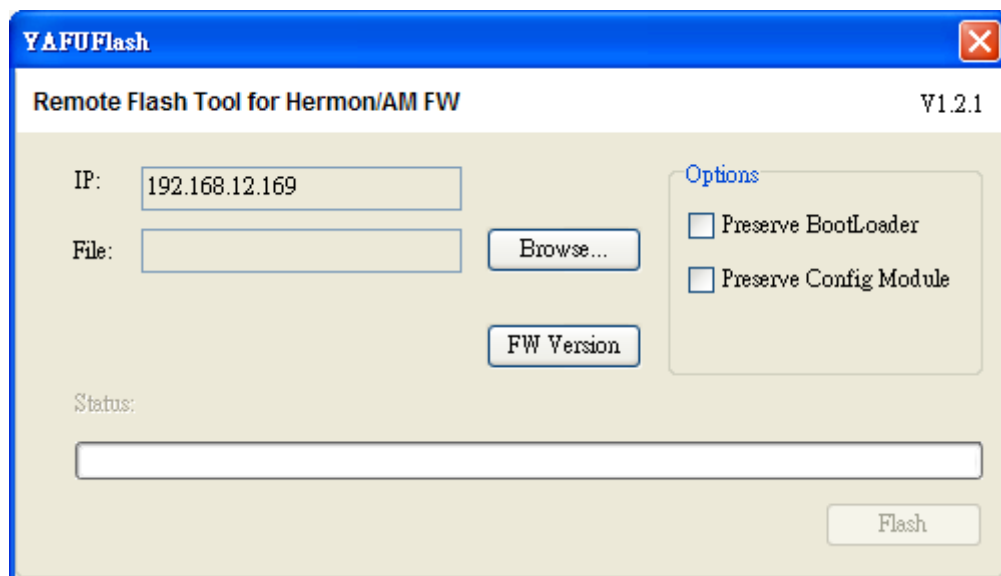

Figure D-2 YAFU Flash Main screen
1. To flash Hermon Firmware, The YAFU Flash Main screen will display as shown in Figure D-2.